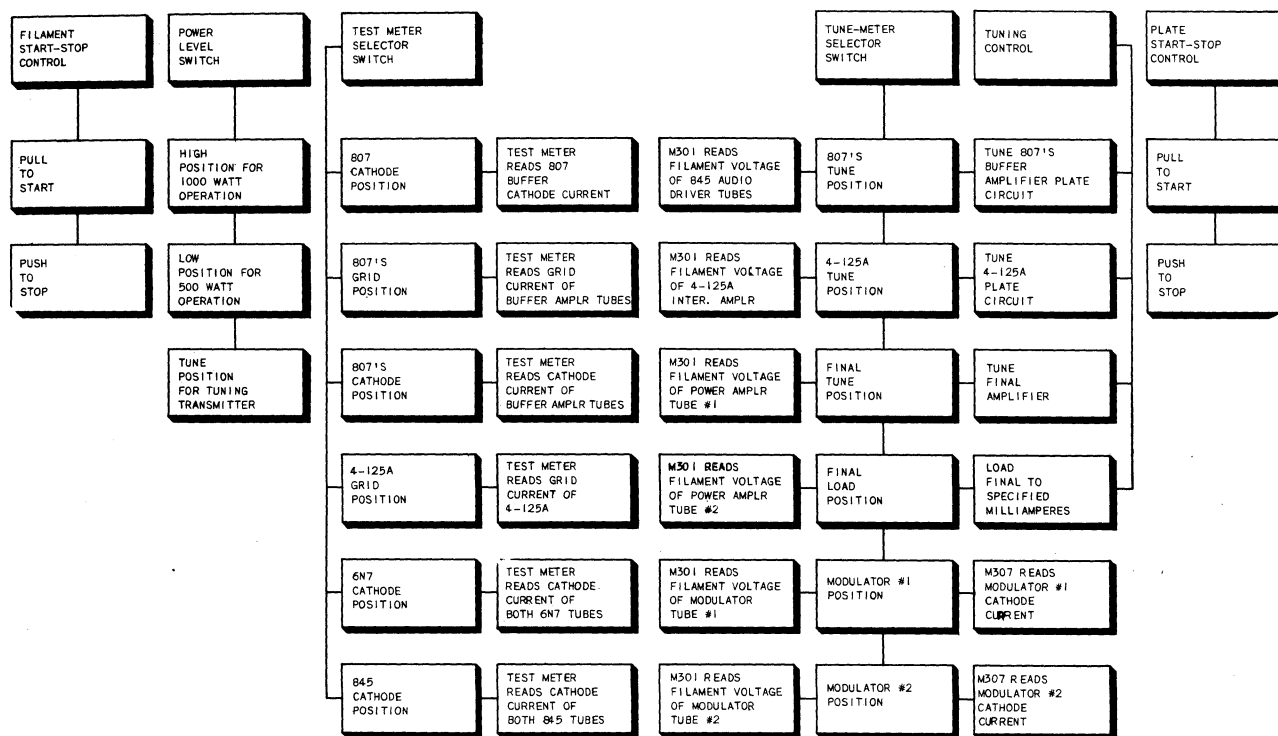

Figure 2-8 Control Panel Operations
2.2.2. Function of Controls. (Refer to figure 2-8.)